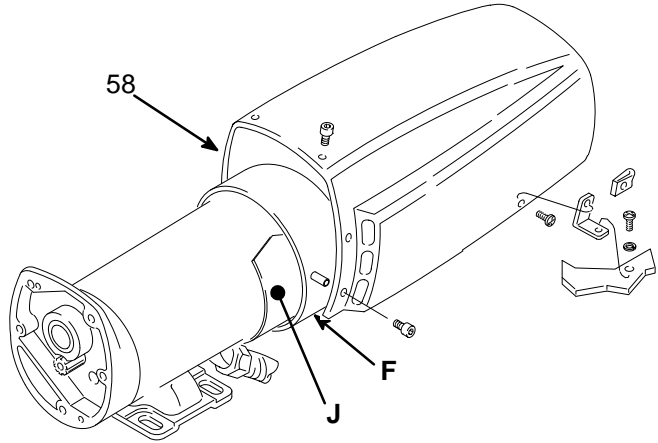

Fig 22-1
Remove the pressure control cover, the motor shield (58), the fan cover (F) and the inspection covers (J). See Fig 22-1.